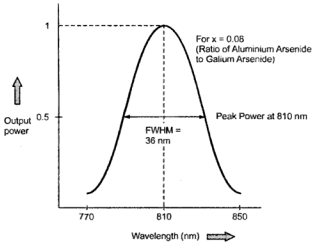

Fig. 3.1.6 Emission spectrum of  $Ga_{1-x}Al_xAs$  LED
- Emission spectrum of  $Ga_{1-x}Al_xAs$  LED is shown in Fig. 3.1.6.